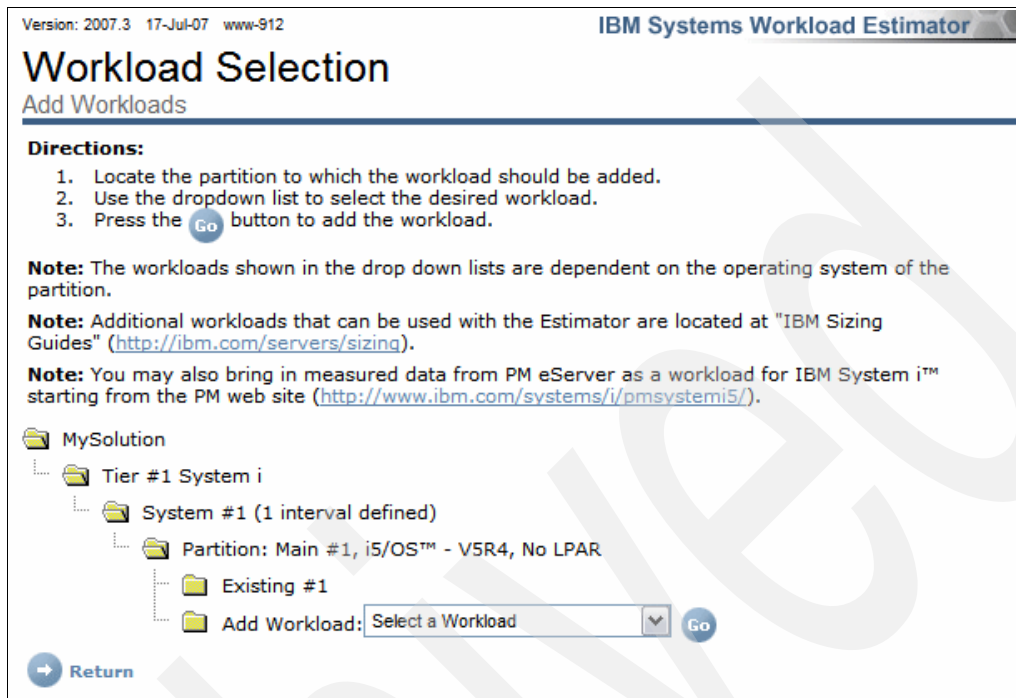

Figure 4-91 Selecting another workload
- In the next panel (Figure 4-91), you can add another workload. Notice that Existing workload #1 that you selected in the previous panel is shown. Do not select another workload. Click **Return**.